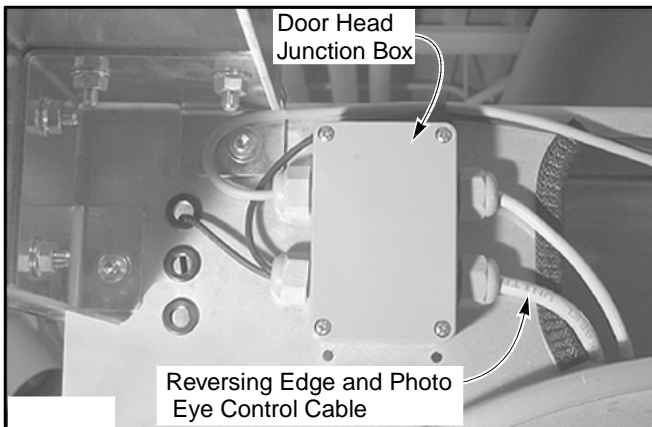

Figure 52
1. Route the reversing edge and photo eye control cable, leading from the door head junction box, to the control panel. (See Figure 52.)